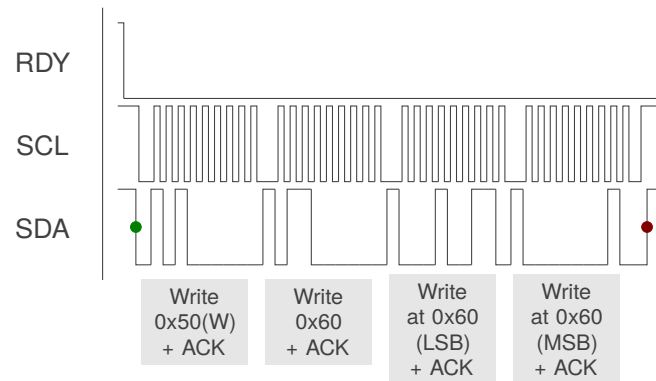

Figure 11.2: I²C Write Example — Write Two Bytes to System Settings 1 Register 0x60
The write operation is displayed in Figure 11.2. Similar to the read transaction, when the RDY interrupt is triggered, the master initiates communication by sending a start condition followed by the device address and a write command. The IQS7221G responds with an acknowledgement, after which the master device transmits one byte defining the register address. The slave acknowledges the register address byte. The master may then write a series of bytes to the register address and the addresses that follow, with each byte being acknowledged by the slave. The write operation is ended when the master produces a stop condition.
- > Write the new values back over I²C, as shown in Figure 11.2.